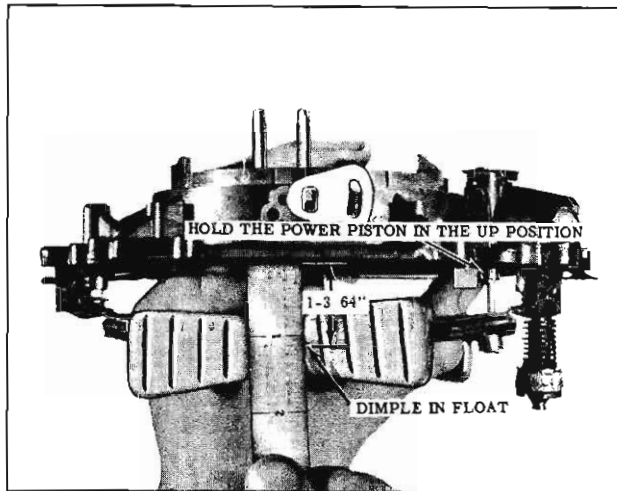

Fig. 4-20 Checking Vacuum Assist Spring
1. Position the air horn as shown in Fig. 4-20, with the power piston retained in the up position.